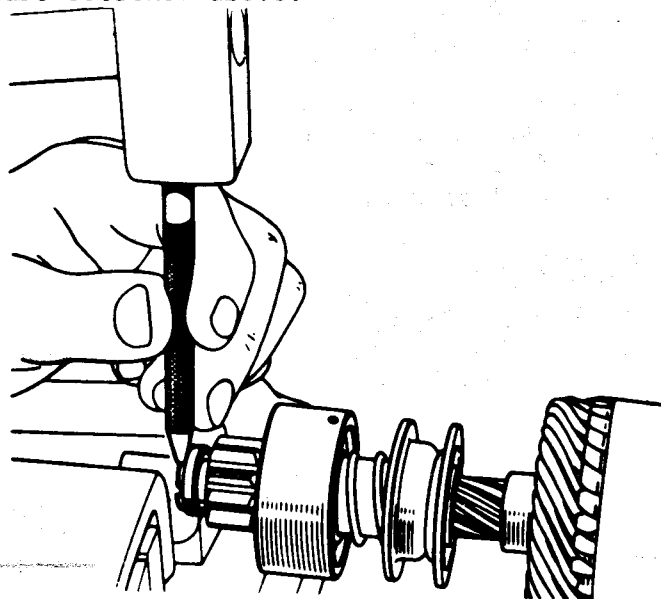

Fig.13 - Peening the End Stop.
2. The end of the stop must be peened down at four points as shown in Fig.13 to trap the snap-rings in place.